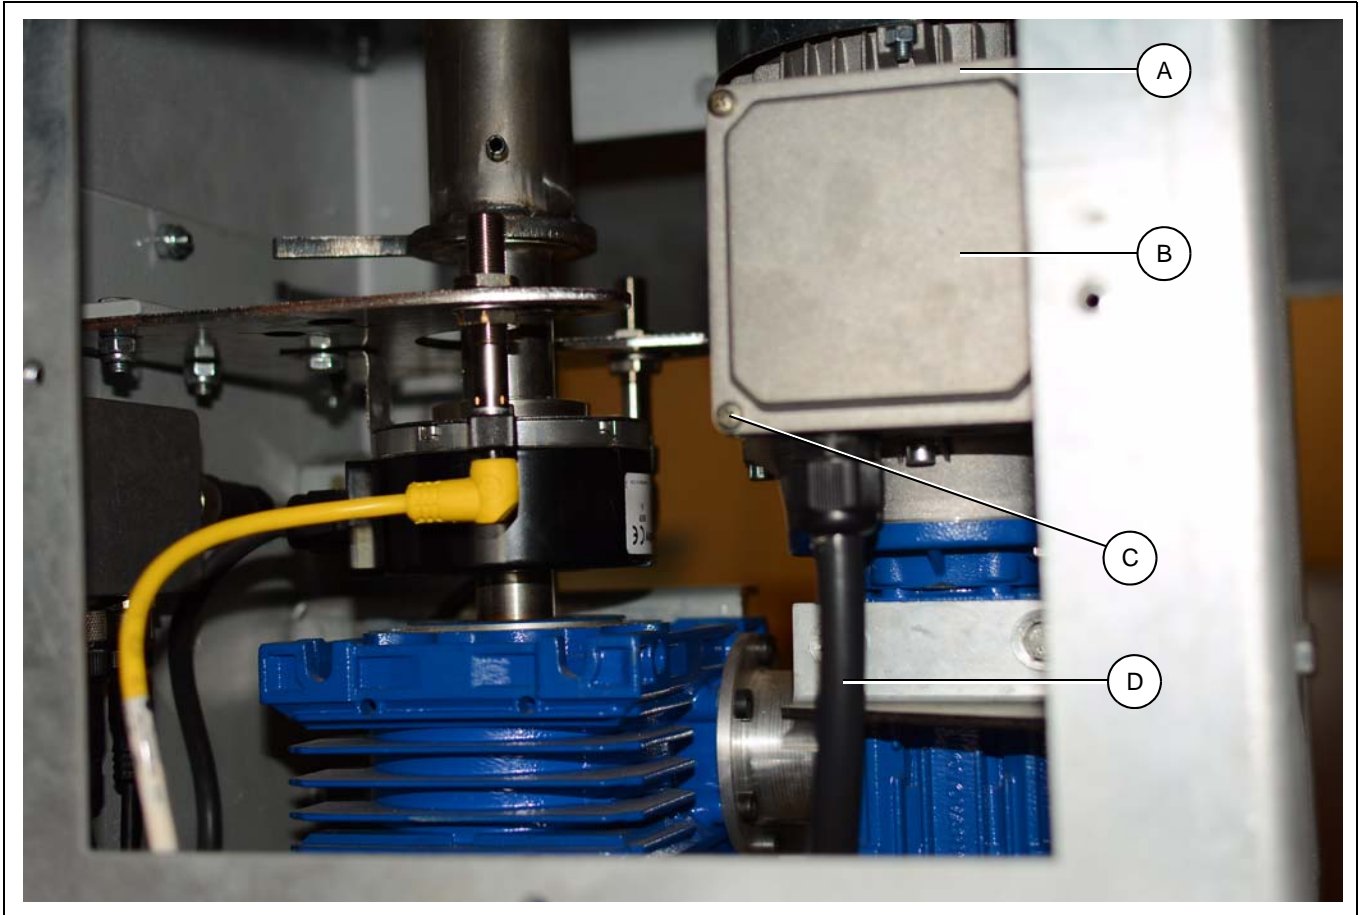

Figure 3C Cable fitting connection to motor junction box.
Remove the four (4) motor junction box cover screws (C) and the motor junction box cover (A) as shown in Figure 3C.
Pull motor wiring through conduit to enclosure and feed to motor junction box (B) and through provided cord grip. Motor wiring should be routed within the enclosure to avoid close proximity to all sensor wiring. Motor wiring should be kept at least 4" from any sensor wires. (See Figure 3C.)